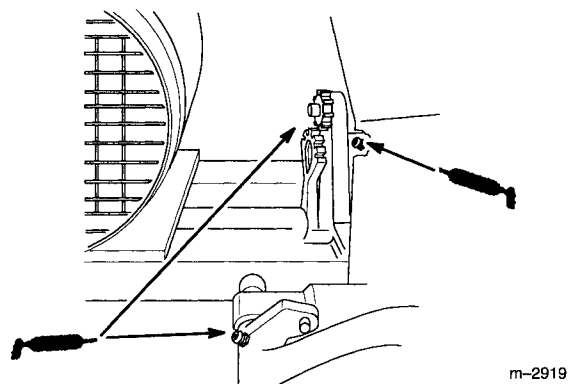

Figure 23
3. Lubricate the brake pedal(s) where it pivots on mounting shaft, steering shaft and pread grease on steering sector teeth (Fig. 23).